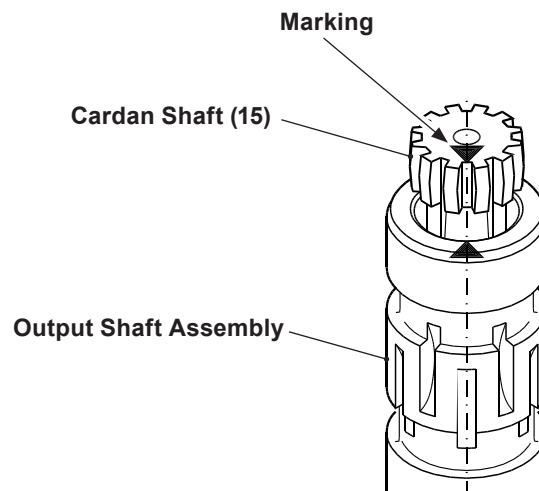

Figure 12, Cardan Shaft Marks
4. Guide the cardan shaft (15) down into the motor housing and into the output shaft assembly. See figure 12. In case of different spline lengths turn the cardan shaft to ensure the long spline end is fitted in the output shaft.
5. Transfer marking from output shaft to cardan shaft. See figure 12.